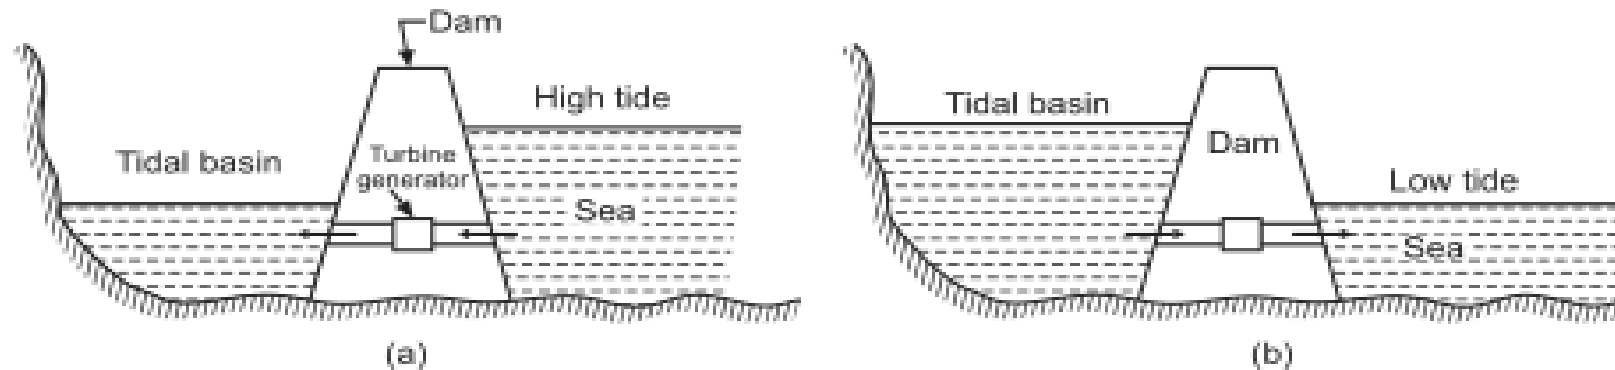

Fig. 1.1. Generation of power by tides.
- The use of tides for electric power generation is practical in a few favourably situated sites where the geography of an inlet or bay favours the construction of a large scale hydroelectric plant. To harness the tides, a dam would be built across the mouth of the bay in which large gates and low head hydraulic turbines would be installed. At the time of high tide the gates are opened and after storing water in the tidal basin the gates are closed. After the tide has receded, there is a working hydraulic head between the basin water and open sea/ocean and the water is allowed to flow back to the sea through water turbines installed in the dam. With this type of arrangement, the generation of electric power is *not continuous*. However by using reversible water turbine the turbine can be run continuously as shown in Fig. 1.1.